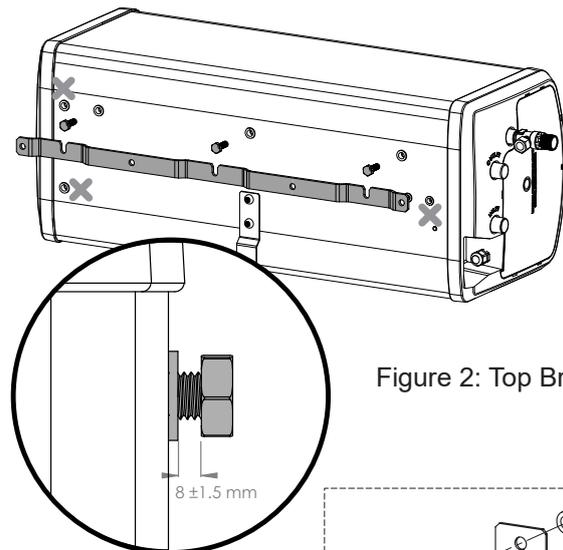

Figure 2: Top Bracket
- ▶ The top bracket bolts should be screwed in until they stop and stick out 8mm as shown Figure 2.